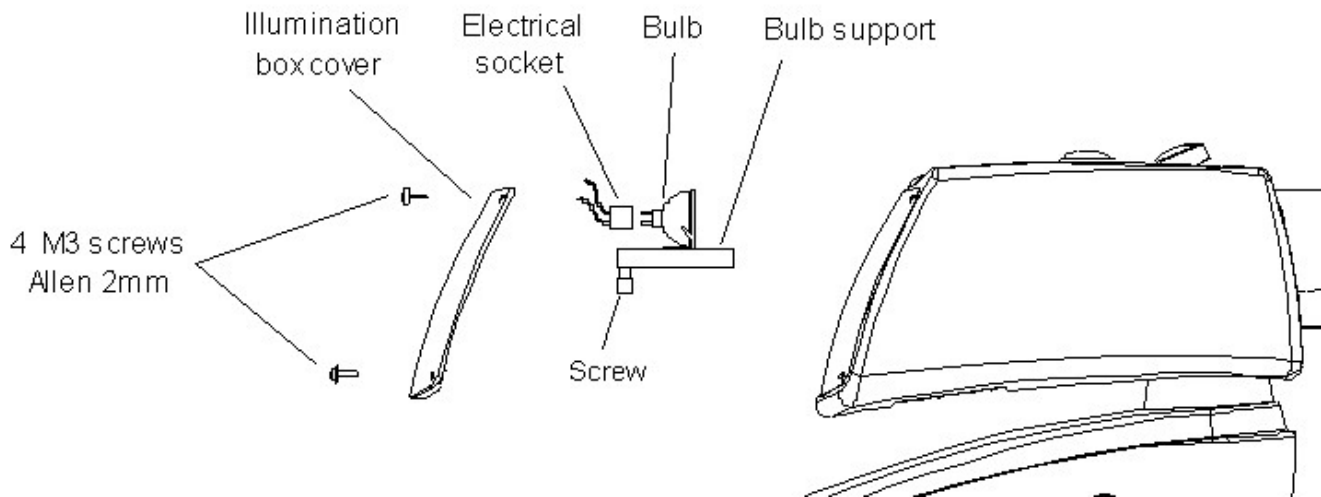

Figure 15: Halogen bulb in the illumination box
- Loosen 4 screws holding the illumination box cover, and remove it (Figure 15).
- Release 2 electrical sockets in which the halogen bulb is inserted (Figure 15).
- Release 2 screws from the bulb housing (Figure 15).
- Remove the bulb housing by pulling it out (slide fitting) (Figure 15).
- Replace the burnt out bulb and reassemble the illumination box (Figure 15).